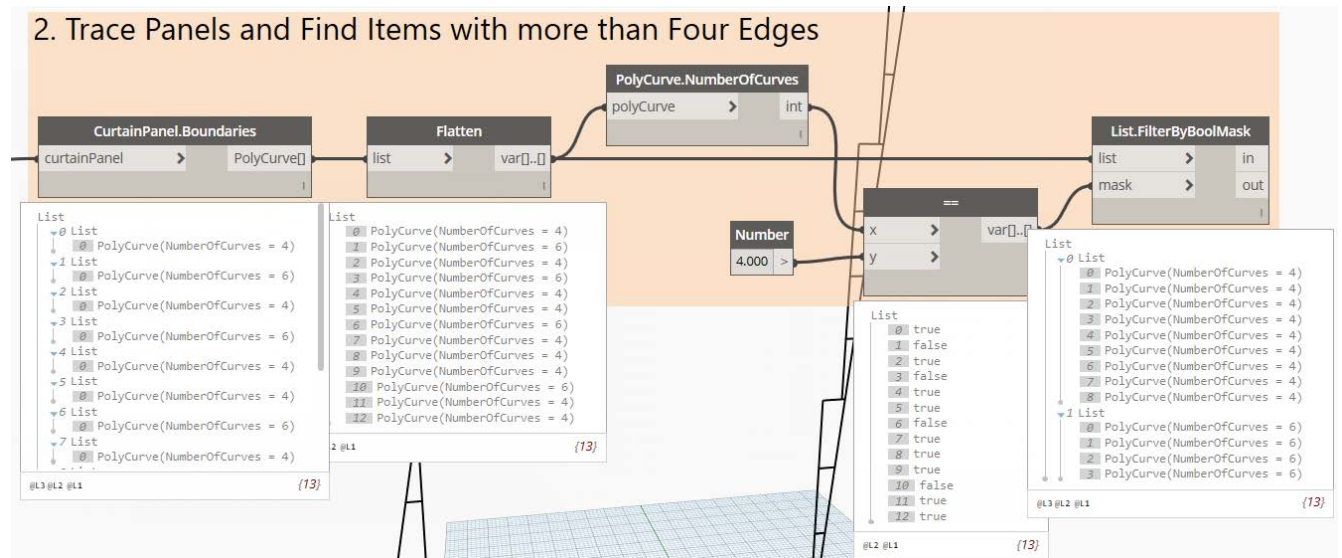

Figure 73
26. Feed the output of the **Flatten** node (Our list of PolyCurves) into the **list** input (see Figure 73).